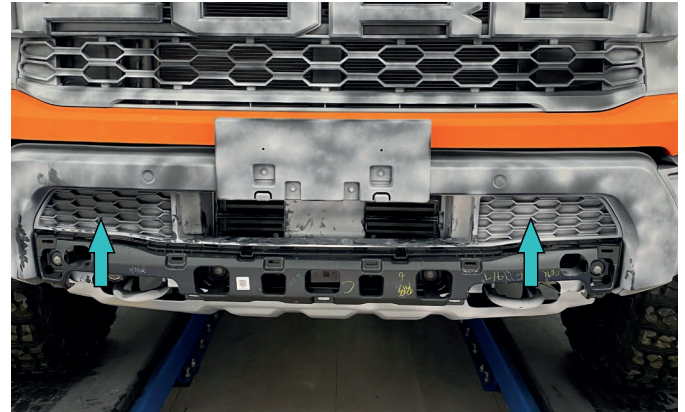
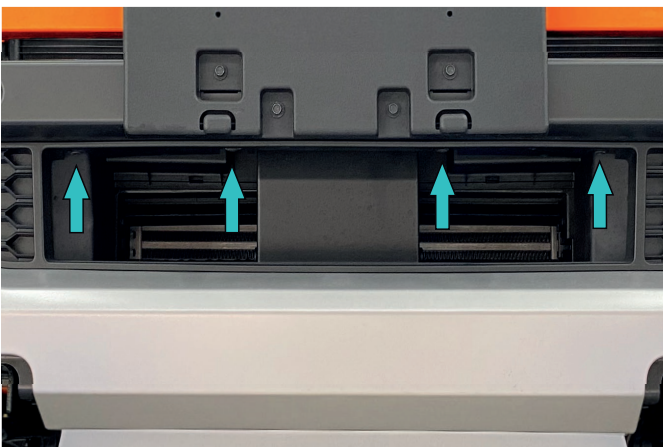

Fig.4
Fig.5
4. Remove the plastic grille (fig.4). The mounting points are show in the fig.5.
5. Unsrew 4 bolts (fig.5).